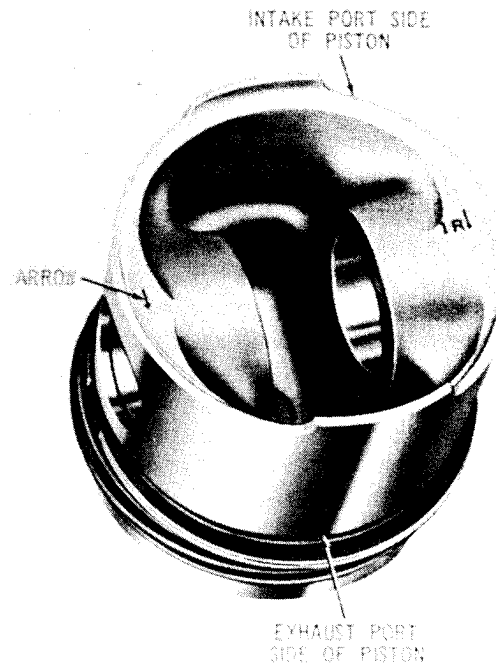
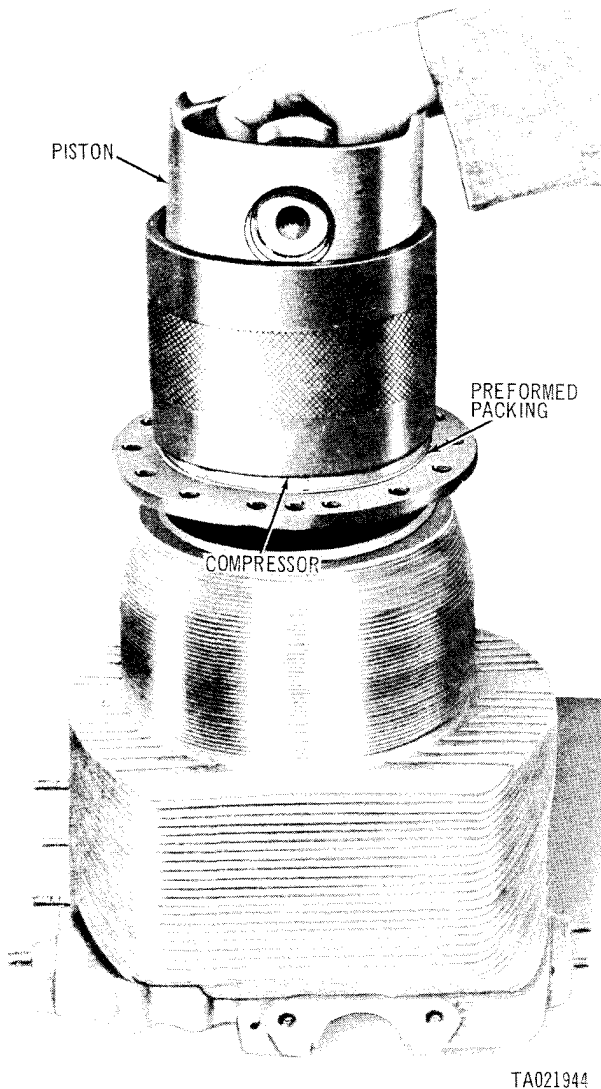

Figure 3-317. Piston installation position marks.
Figure 3-318. Installing piston in cylinder assembly using compressor and gage.
a. The pistons are marked for identification as shown in figure 3-317 to aid in installing the pistons in their proper position. The piston boss is stamped with an arrow and the cylinder location (1R) to identify the cylinder from which the piston was removed and to assure piston will be returned to its original cylinder. The arrows on the piston pin bosses are pointed up, or to the exhaust outlet port. Cylinders are stamped with position markings at the intake valve side (bottom) of valve rocker arm cover flange. Markings of any piston or cylinders must be renewed if position marks and/or arrows are not entirely legible. Replacement piston must be marked to the corresponding cylinder it is to be used with. Always keep piston pin with its respective piston.
d. Install piston and rings (fig. 3-318) in cylinder assembly using compressor and gage 10882888. The piston position number (fig. 3-317) must always correspond to the cylinder number marked on intake valve side of valve rocker arm cover flange. The arrow on the piston boss must be directed toward the exhaust port outlet. Guide piston and rings into cylinder until all piston rings
e. Install new preformed packing (fig. 3-318) on each cylinder base making sure that packing is not twisted or other wise improperly seated.